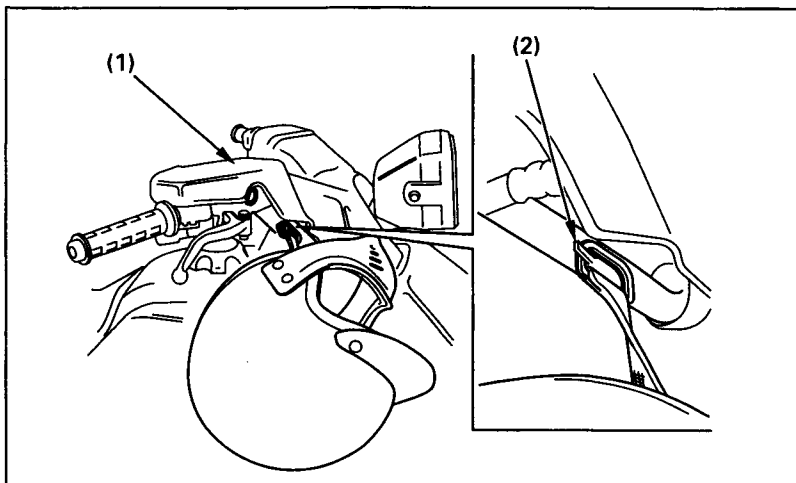

Fig. 2-22 (1) Handlebar cover
The helmet holder (2) (Fig. 2-22) is a bracket near the right side of the handlebar cover (1). To use the holder, hang the D-ring on your helmet strap over the bracket. Use the helmet holder only when the FOURTRAX is parked.